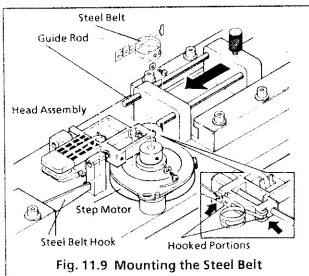

Fig. 11.9 Mounting the Steel Belt
- (2) Wind a new steel belt in the shape of alpha as shown in figure 11-9.